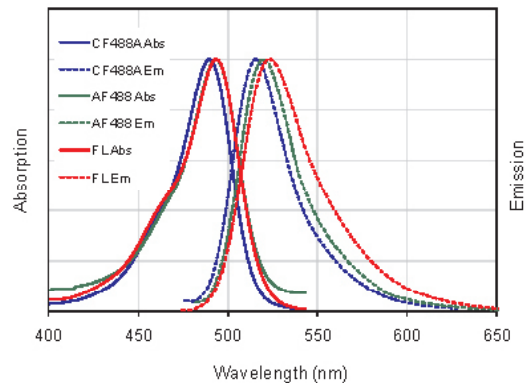

Figure 1. Normalized absorption and emission spectra for CF488A, Alexa Fluor 488 (AF488) and FITC (FL) conjugated goat anti-mouse IgG, respectively.
**Abs/Em Maxima:** 490/515 nm (See Figure 1)